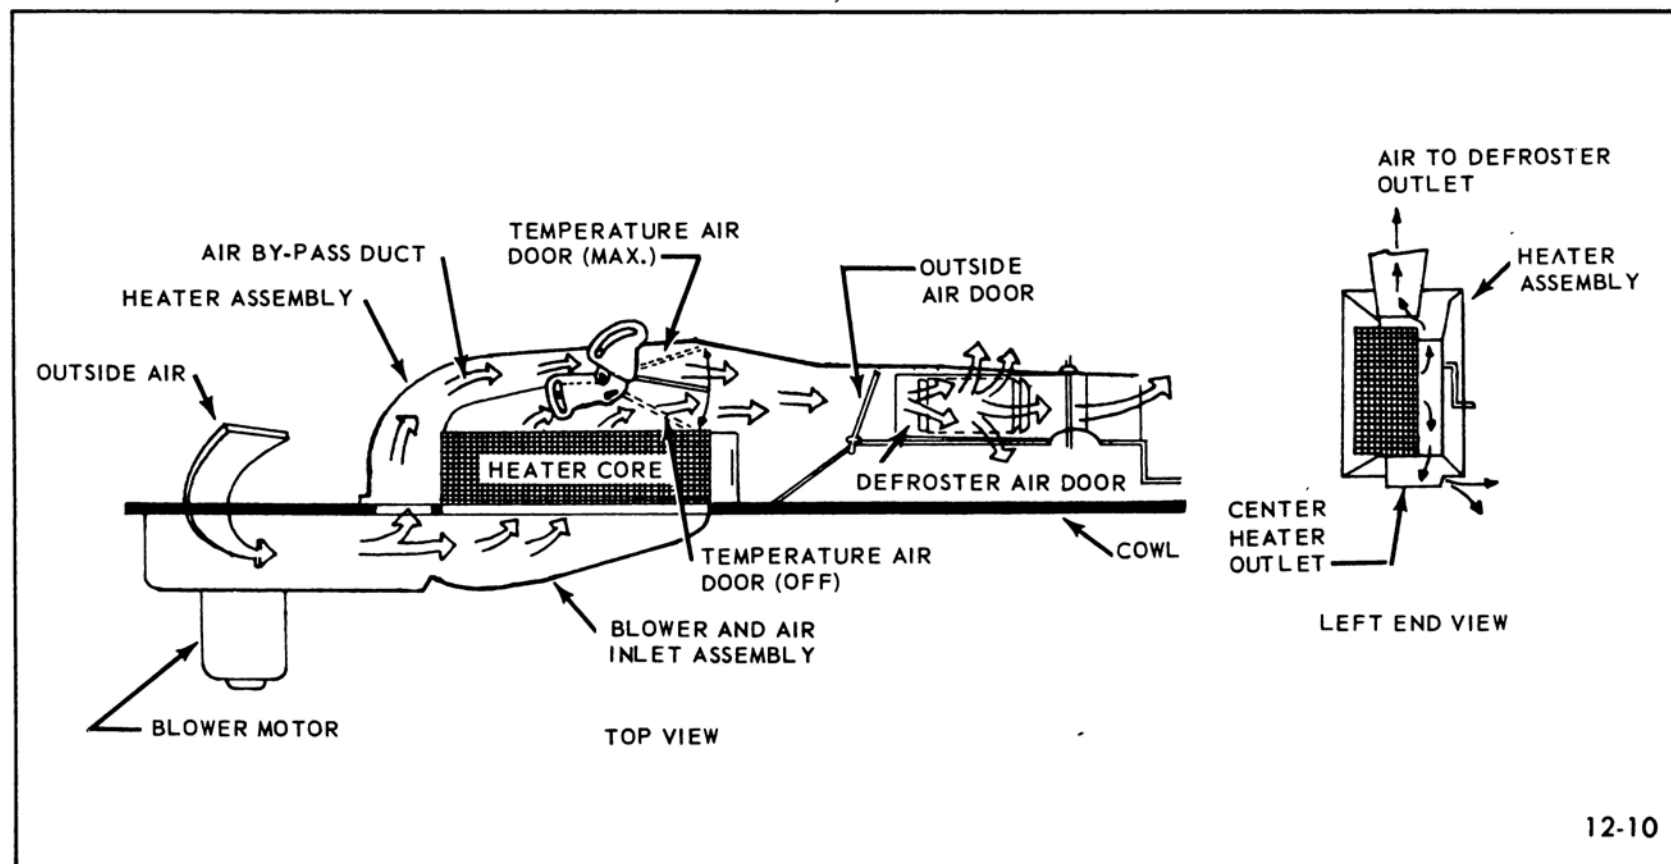

Figure 12-13 Heater System Air Flow
**2. Heater Assembly** - The heater assembly (see Figure 12-13) houses the heater core and the doors necessary to control mixing and channeling of the air. Air entering the heater assembly divides into two channels: (1) through the heater core and (2) through a by-pass around the heater core. The ratio of the mixture of heated to unheated air is controlled by the temperature door. An outside air inlet door initiates the air flow through the heater assembly. A defroster door controls the amount of air deflected through the defroster outlets. The defroster door may be positioned to deflect all air